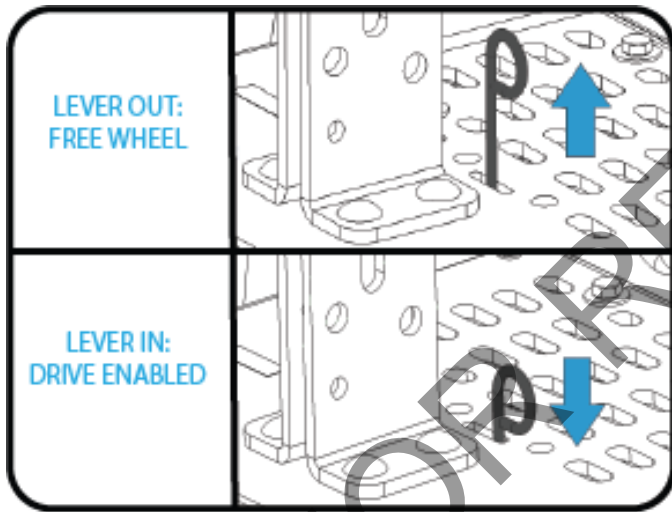

Fig. 6
**Free Wheel Lever:** Located on top of machine next to the height adjust. Pull the lever out to free wheel and push it in to allow the drive to be engaged. (See Fig. 6)